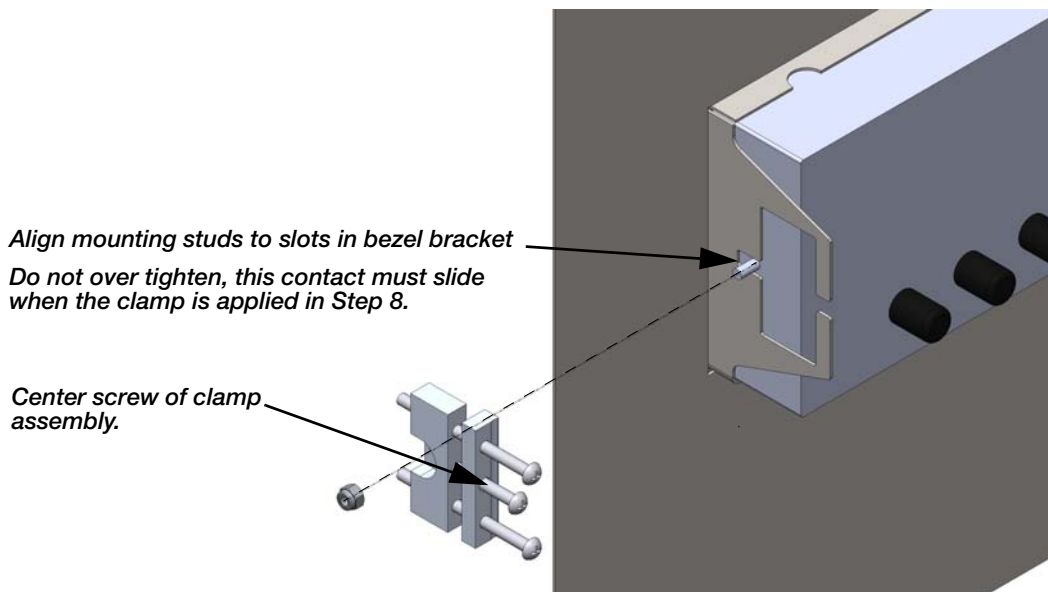

Figure 4. Install Indicator
8. Tighten the center screw of the clamp assembly as shown in Figure 4, until the indicator is pressed securely against the inner bezel gasket.